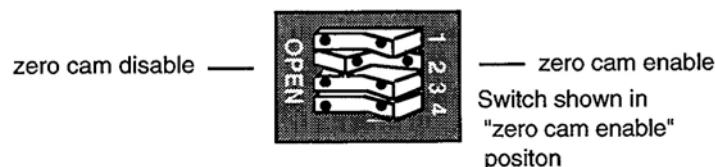

Figure 2-10. Zero cam enable switch.
9. The last thing you need to do is set DIP switch 2 on switch block S1 (refer to location of components). You must set switch 2 to the right. With a ball point pen (not a pencil) or your thumbnail, push the switch to the right—to the "zero cam enable" position. See Figure 2-10. Make sure you push the switch all the way to the right. Also, if power is on, press and hold the Reset button for at least two seconds (toggle switch S2 must be set to "operate" before pushing Reset). This must be done any time the switch is changed with power on. If power is off, AutoSet automatically resets at start-up.